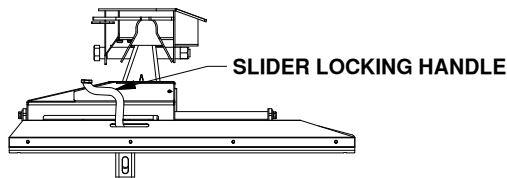

Figure H1: Side view of slider base. LOCKED HANDLE POSITION
3. Pull the truck forward slowly until the handle falls and is in the locked position, shown in Figure H1.